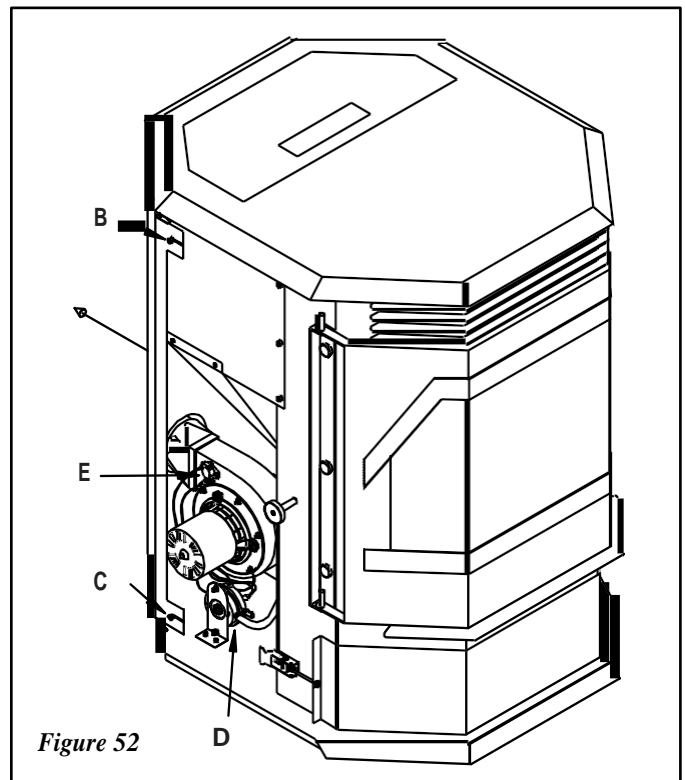

Figure 52
2. Locate the switch on the combustion blower (see *Figure 52*).
3. Loosen the two screws B and C shown in *Figure 52* and the corresponding two screws on the other side of the stove. The back can now be pulled to the rear and off of the stove.
The Winslow PS40 stove has a vacuum switch located behind the left door, fastened to the pedestal base (see D in *Figure 52*). If a low pressure is created in the firebox by a leak, opening the front door, a blocked flue, or unsealed ash drawer, the vacuum switch will sense it and cause the stove to go into a shutdown mode.
(Closes at 140°F) This switch is installed on the combustion blower (see E in *Figure 52*) and shuts the stove down if it senses no fire in the Burn-Pot.